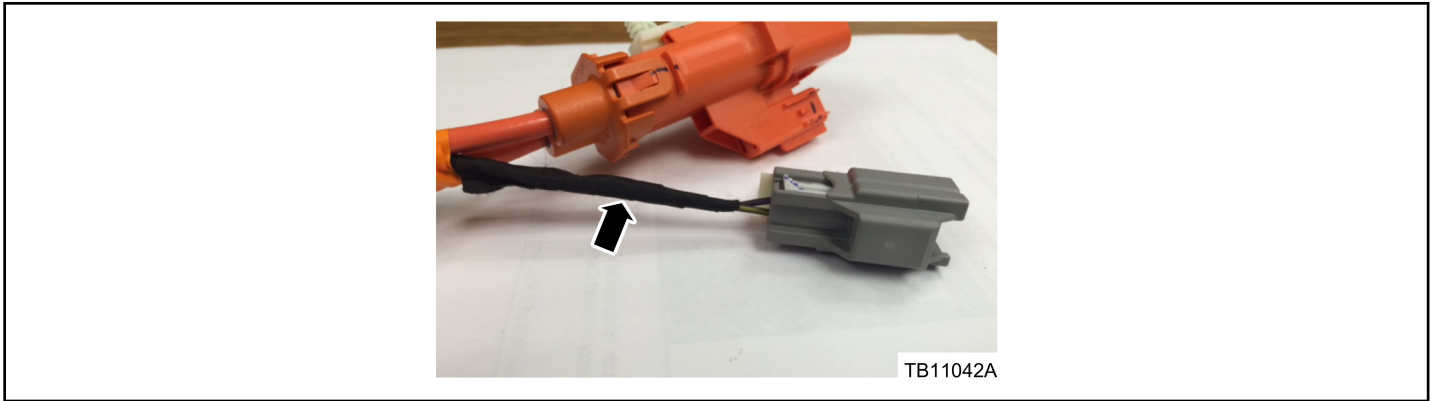

Figure 3 - Article 17-0015
8. Apply Coroplast tape to protect the wiring and secure the 10B689 harness to prevent repeat occurrence. (Figure 3)